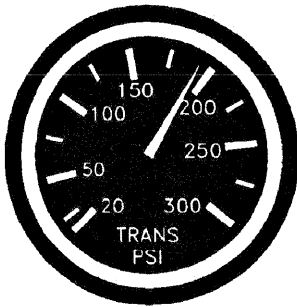

Fig. 3-8 Transmission Circuit Pressure Gauge
**9. Transmission Circuit Pressure Gauge** See Fig. 3-8